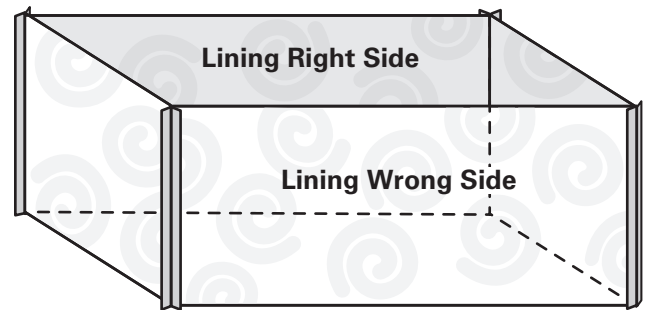

Fig. 20-3
4. For each lining, sew the short edges of the sides together with right sides facing. Press the seams open. (Fig. 20-3)